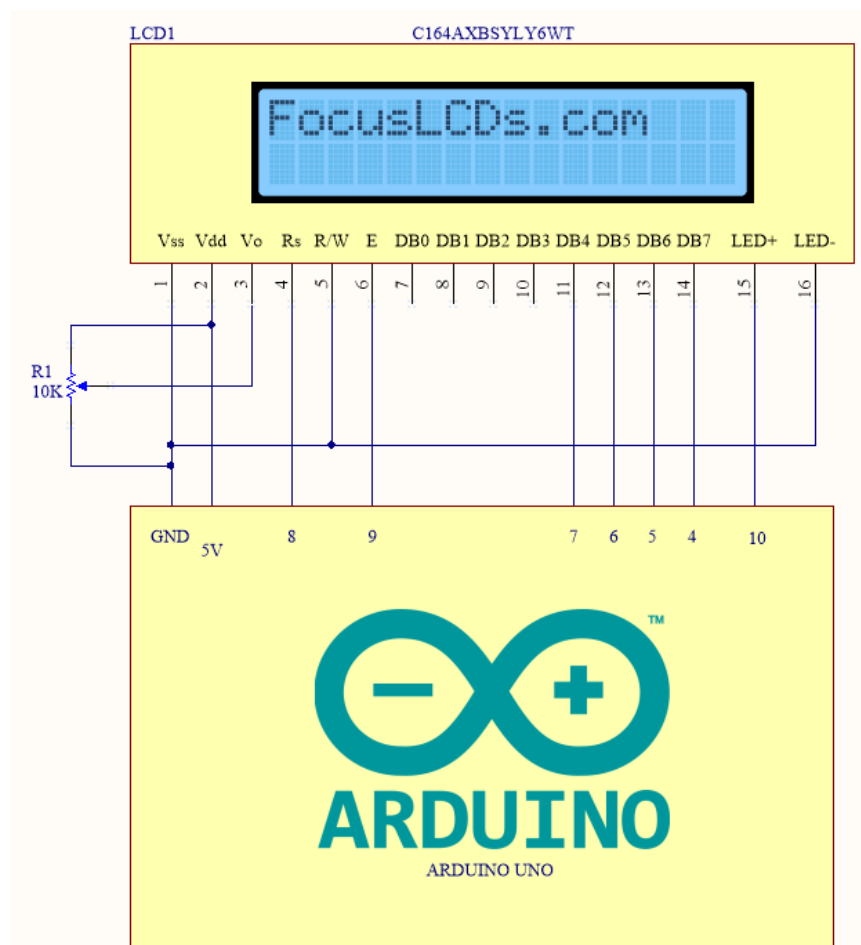
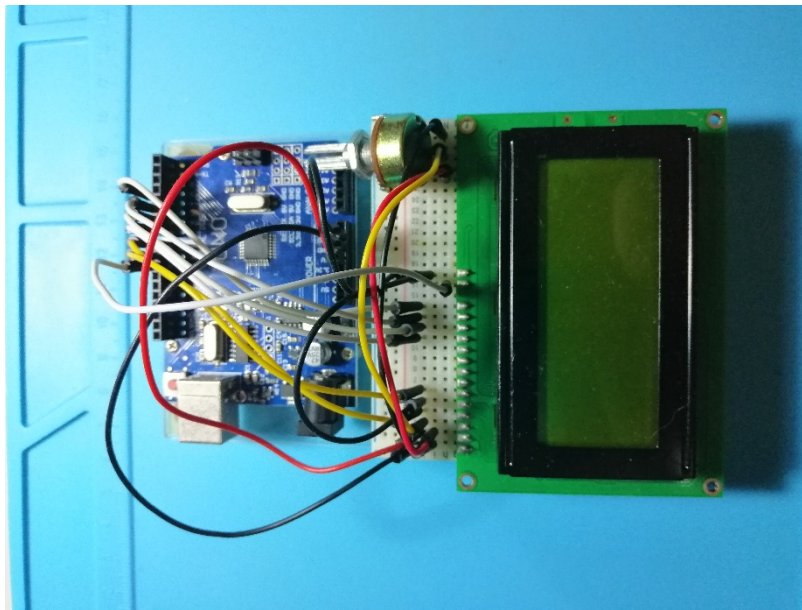

Figure 3: LCD and Arduino UNO Schematic
Figure 4: Wiring of Arduino to LCD.
- 3.b Wire up the circuit as shown in the following schematic (Figure 3). It should look similar to Figure 4. Note that Arduino pins 4 to 9 are digital I/O pins. Arduino boards also have analog I/O pins. Connect the Arduino to a PC via the USB cable.